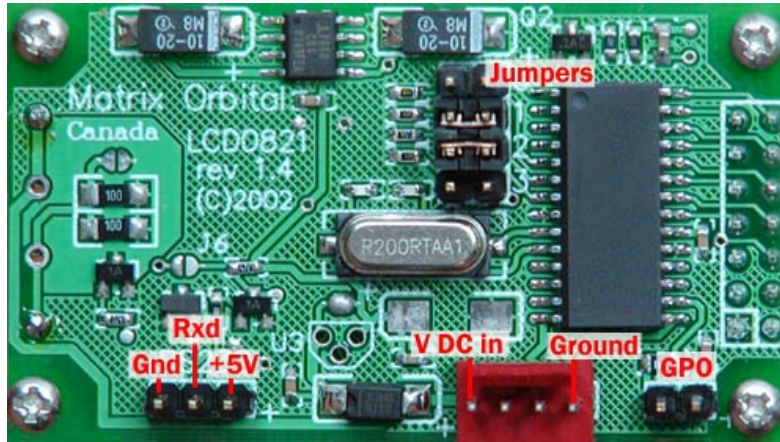

Figure 2-1 Electrical Connections
1. Refer to the diagram above and Figure 2-1 for the following steps.
Power is applied via pins +5V OR Vin as shown in Figure 2-1. Power requirement for standard units is +5 VDC  $\pm$ 0.25V (units with the wide voltage range option require 8 – 15 VDC). Power may also be supplied via the RS-232 connector as described in section 2.1.3.